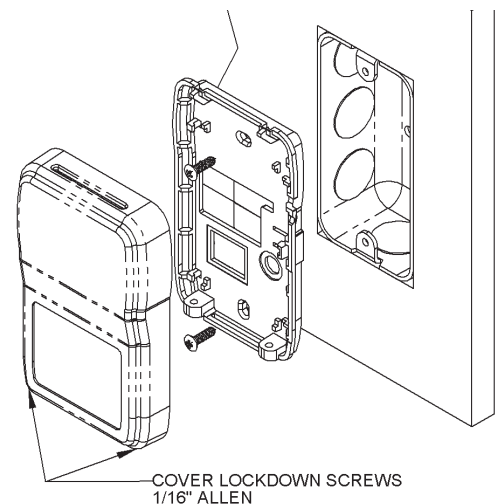

Fig 3: Sensor Mounting
### JUNCTION BOX MOUNTING: (Fig. 3)
8. Attach cover by latching it to the top of the base, rotating the cover down and snapping it into place. Secure the cover by backing out the lock-down screws using a 1/16" Allen wrench until the screws are flush with the cover (see Fig 3).